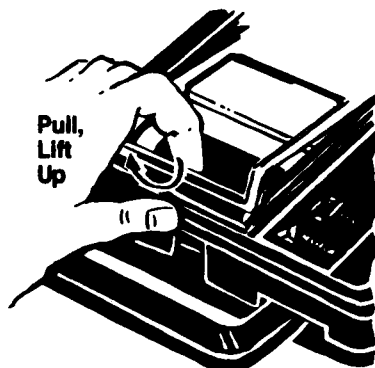
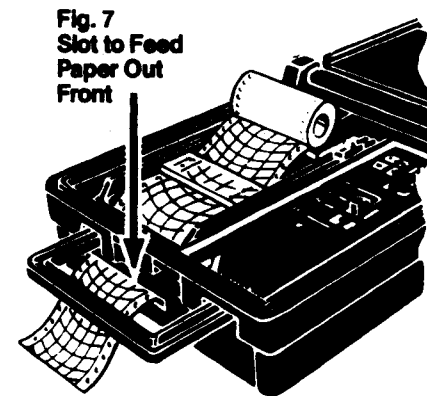

Fig. 4
Fig. 7
2. Remove top cover. See fig. 4.
3. Unroll about nine (9) inches of chart paper.
4. With printed side up, slip leading edge of paper under the glass and out, through slot in front as shown in fig. 7.
3. Load chart paper. See fig. 7 or 9. Replace cover by positioning "U" bend onto the metal projections of chart well (non-take-up) and onto molded plastic projections for take-up recorder and then snap front down. Make sure paper is not binding with cover in place.